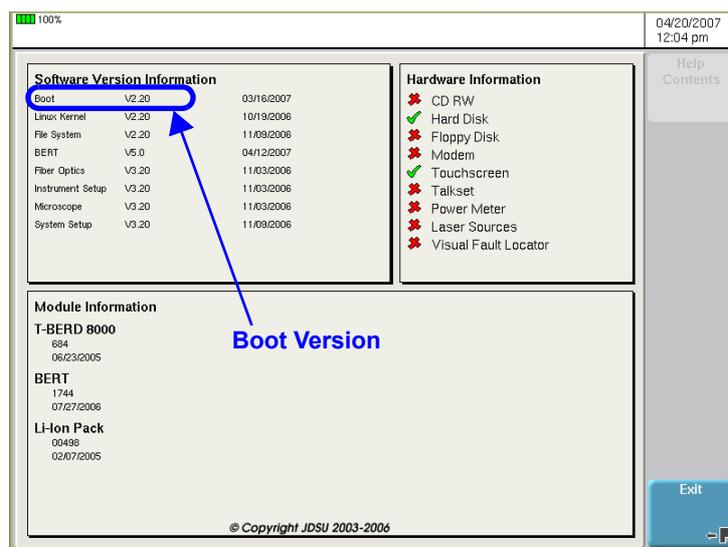

Figure 2 Help Page for a unit running boot version 2.20
- 3 Press the **Help Page** soft key to verify the boot software version in the upper left corner of the display. Figure 2 illustrates the Help Page for a unit running boot version 2.20; your unit may be running different software versions.
- b** Press the **Help Page** soft key, and then verify the versions for the Base, Boot, and Transport Module or MSAM (BERT) software (see Figure 2 on page 3).